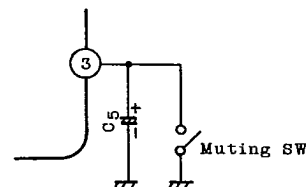

Fig.3
Audio muting can be accomplished by connecting pin ③ (ripple filter) to GND as shown in Fig.3.